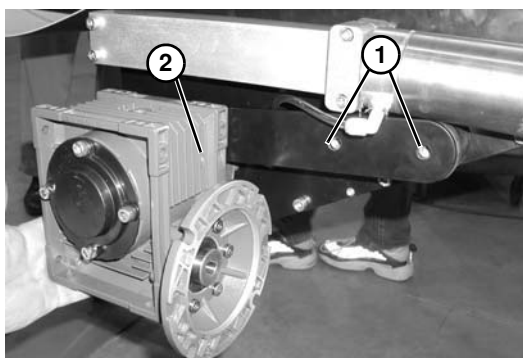
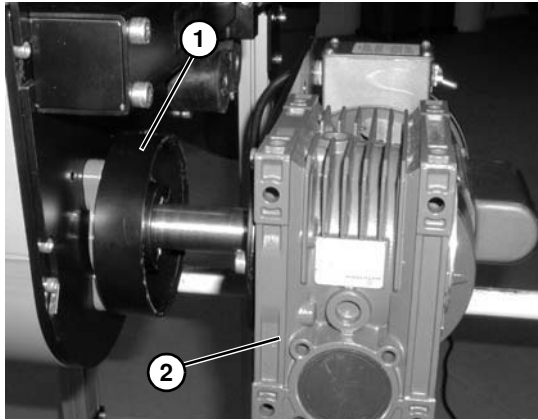

Figure 178
Figure 182
3. Remove screws (**Figure 178, item 1**) and remove gearmotor assembly (**Figure 178, item 2**) (gearhead shown with motor removed for clarity, motor can remain attached to gearhead).
10. Reinstall spacer ring (**Figure 182, item 1**) and gearmotor assembly (**Figure 182, item 2**). Tighten screws (**Figure 178, item 1**) to 17 Nm (150 in lbs).